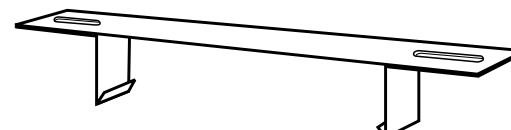

FIGURE 2. Aurora IQSA hanger
- 2) Hangers shall be provided for rod installation (See **FIGURE 2**). These hangers will have a snap type connection with the beam that will allow for the beam to be repositioned along the length of the beam. The hangers will have oval mounting holes which will allow for the beam to have fine adjustment perpendicular to the length beam while the metal channel will have gross adjustment along the same adjustment path.